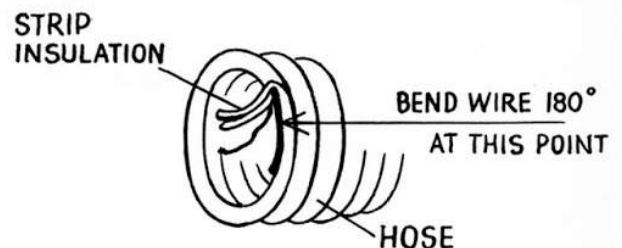

Fig. 1A
- a. Remove hose grip by pulling in direction of arrow along hose (A).
- b. Loosen terminal screws to release hose wires (B).
- c. Remove tape and pull hose from end of tube in direction of arrow (C).
- e. Strip 7/8" of covering from hose spring wire by cutting along outside diameter of spring. See Figure 1A.